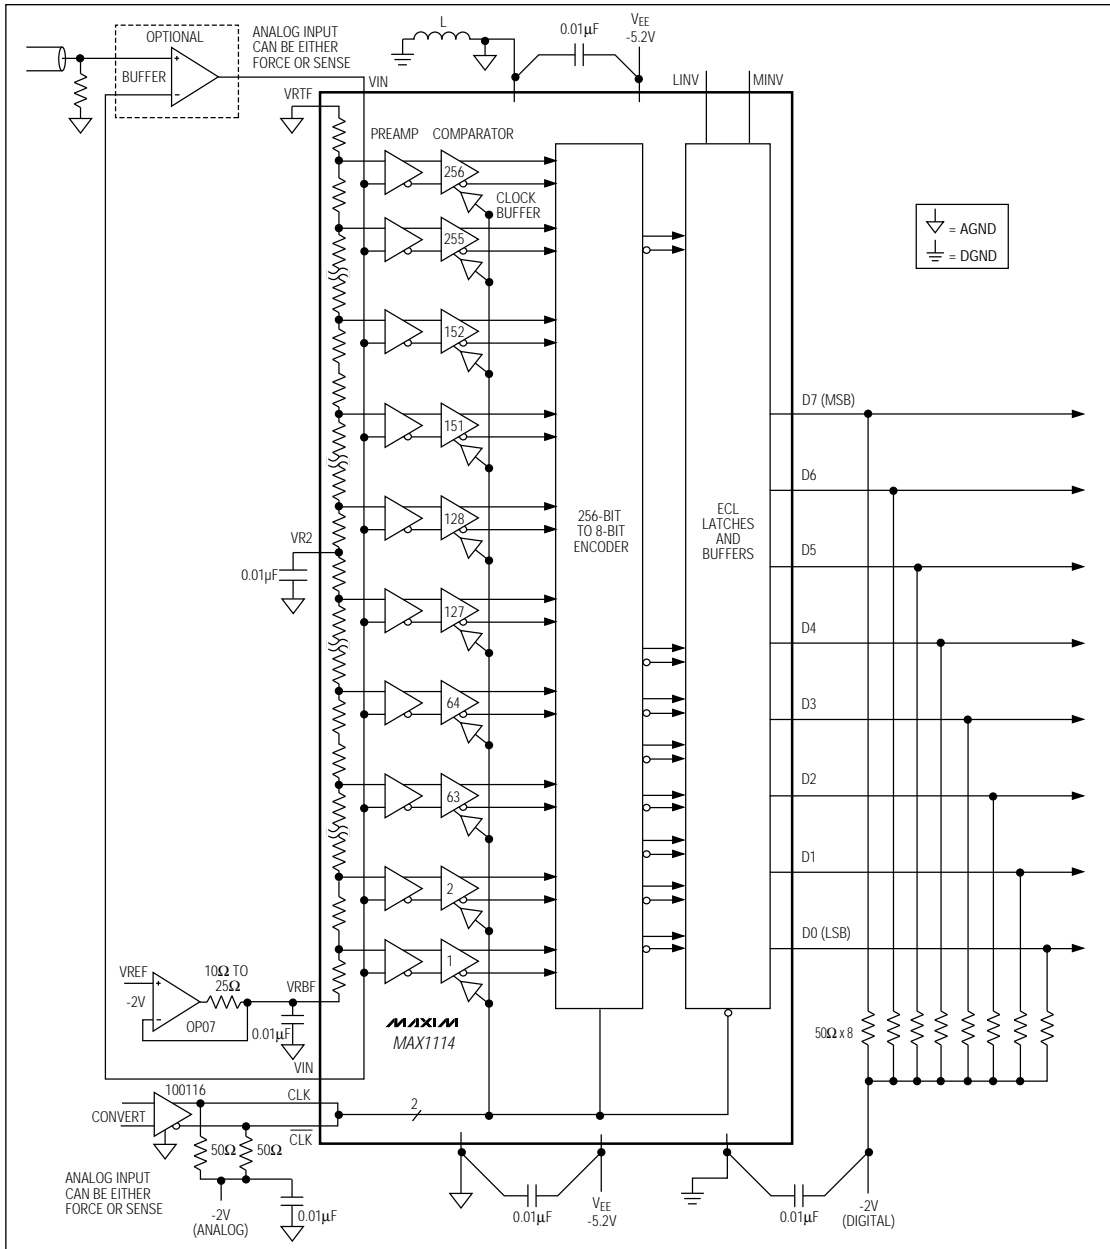

Figure 1. Typical Interface Circuit 1
(Circuit of Figure 1,  $T_A = +25^\circ\text{C}$ , unless otherwise noted.)
Figure 1 shows the typical interface circuit. The MAX1114 is relatively easy to apply, depending on the accuracy needed. Wire-wrap may be employed with careful point-to-point ground connections if desired, but a double-sided PC board with a ground plane on the component side, separated into digital and analog sections gives the best performance. The converter is bonded-out to place the digital pins on the left side of the package and the analog pins on the right side. Additionally, an RF bead connection through a single point from the analog to digital ground planes reduces ground noise pickup.
*VEE* is the supply pin with AGND as ground for the device. The power-supply pins should be bypassed as close to the device as possible with at least a 0.01μF ceramic capacitor. A 1μF tantalum should also be used for low-frequency suppression. DGND is the ground for the ECL outputs and should be referenced to the output pulldown voltage and bypassed as shown in Figure 1.
There are two reference inputs and one external reference voltage tap. These are -2V (VRBF), mid-tap (VR2) and AGND (VRTF). The reference pins can be driven as shown in Figure 1. VR2 should be bypassed to AGND for further noise suppression.